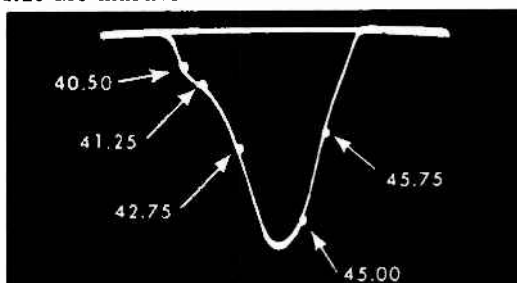

Fig. 7 Overall Response With Zero Bias For Adjusting The 40.5 Mc Trap
10. Switch oscilloscope to position used in Step 8. Remove the bias battery and ground the AGC. Adjust signal generator to obtain a 3 volt peak to peak response similar to Fig. 7. Adjust the 2nd IF cathode trap for maximum displacement of the 40.50 Mc marker but not to exceed the displacement of the 41.25 Mc marker.